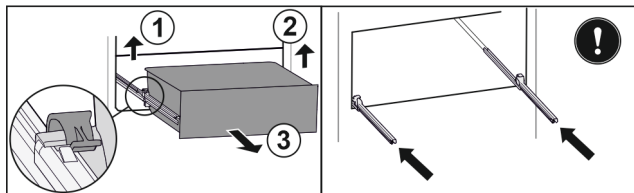

Fig. 64
- Lift left clamp and simultaneously pull drawer forwards on the left. Fig. 64 (1)
- Lift right clamp and simultaneously pull drawer forwards on the right. Fig. 64 (2)
- Remove drawer to the front. Fig. 64 (3)